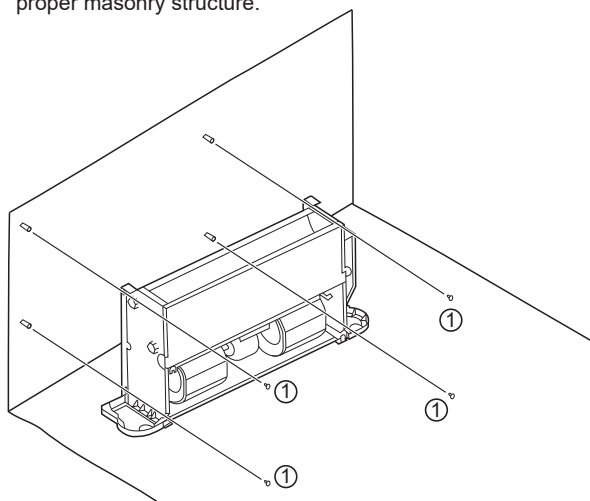

Figure 5-2 Diagram for fixing the unit body
As shown in Figure 5-2, fasten four screws (1) into a proper masonry structure.